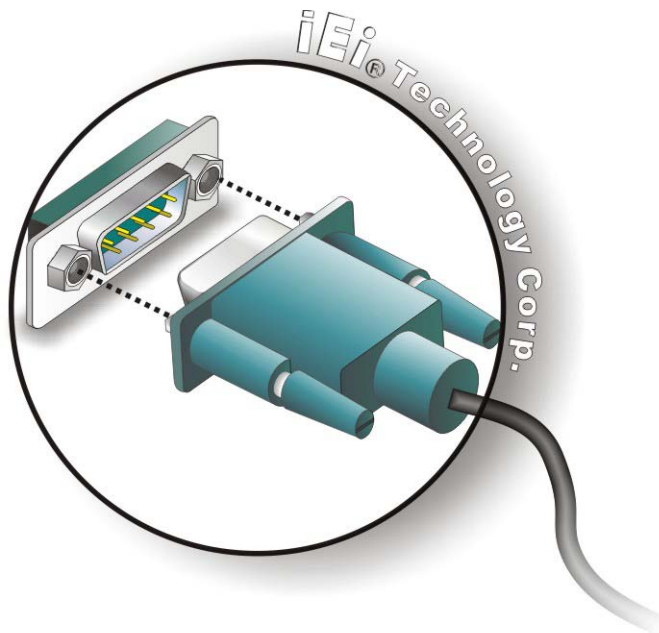

Figure 3-24: DB-9 Serial Port Connector
Step 2: Insert the serial connector. Insert the DB-9 connector of a serial device into the DB-9 connector on the uIBX-210-CV-N2600. See Figure 3-24.